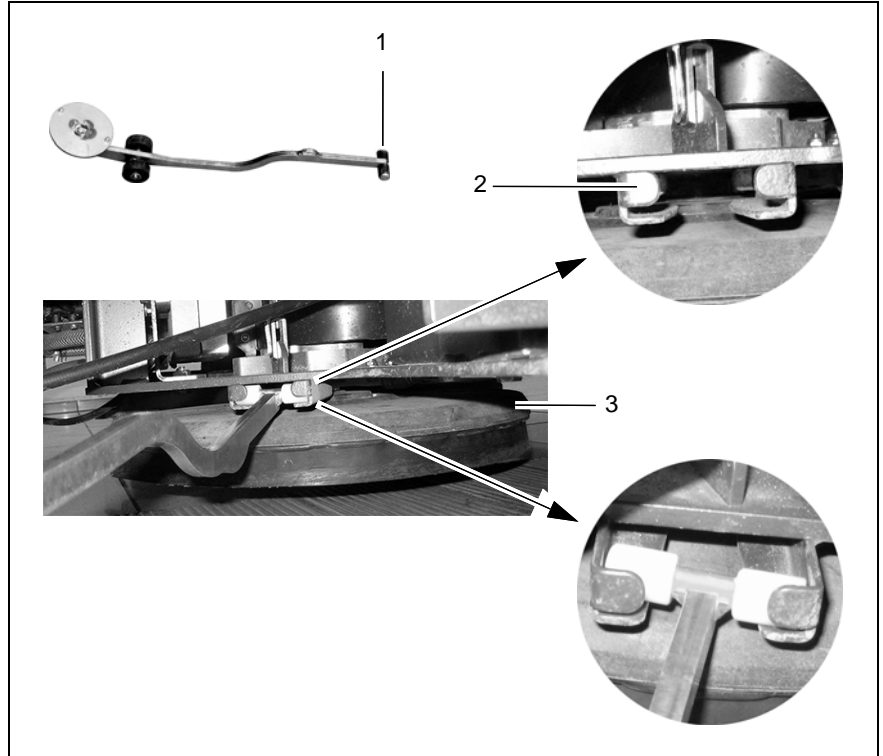

Fig. 9
3. Insert the narrow side of the assembly tool (Fig. 9/1) in the guiding aid (Fig. 9/2).
4. Slide the assembly tool (Fig. 9/1) as far as possible to the rear.
5. Force the wide end of the assembly tool downwards. As a result of the levering effect, the brush or pad (Fig. 9/3) is released from the brush head.
6. Draw the assembly tool (Fig. 9/1) back and remove from the guiding aid (Fig. 9/2).